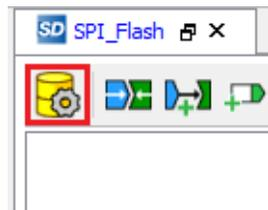

Figure 13 • Generate Component
8. Generate the SPI_Flash Smart Design by clicking **SmartDesign > Generate Component** or by clicking **Generate Component** on the SmartDesign toolbar, as shown in Figure 13.